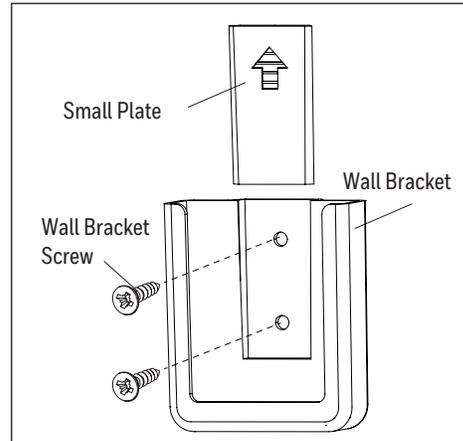

Figure 4.9
9. Remote control comes equipped with a wall bracket. If you wish to install the wall bracket, remove the small plate to expose the screw holes. Insert wall brackets screws through holes and into wall, then cover with the previously removed small plate. The remote can be stored in the wall bracket for easy access (Figure 4.9).